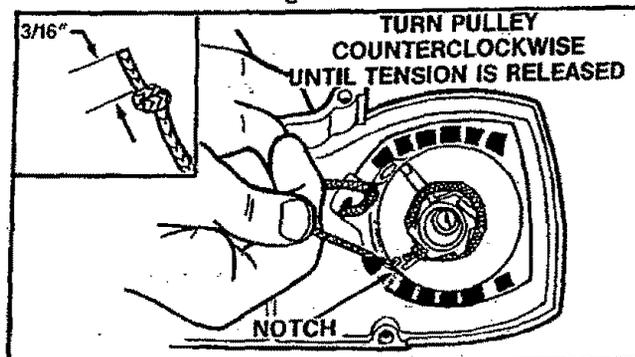

Figure 47
5. If the starter rope is not broken, release the spring tension by pulling about 10 inches of rope from the pulley and catch the rope in the notch as shown. Figure 47. Remove old rope.
9. Insert one end of the rope through the handle and secure with a knot. Leave 3/16" pigtail behind knot. Figure 47 (inset).